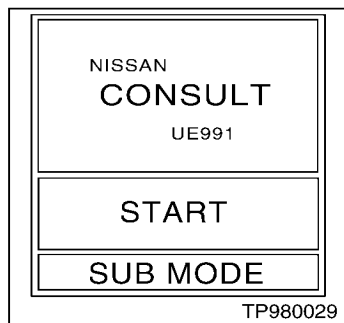

Figure 1
2. Turn ignition ON and read the program card ID on CONSULT screen (Figure 1).